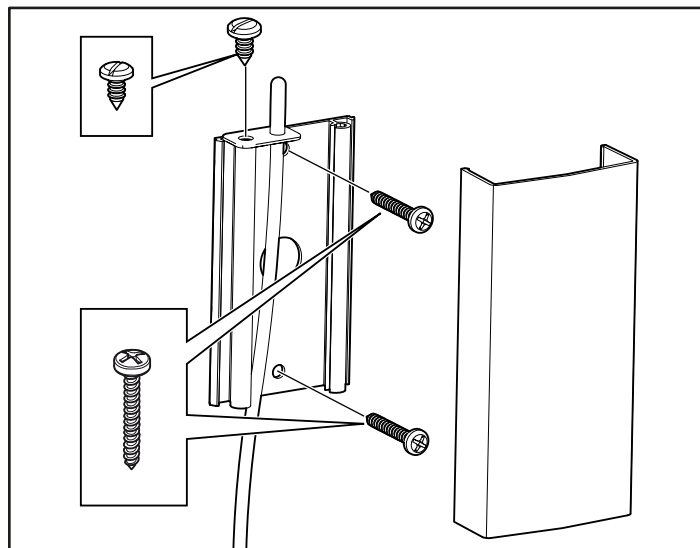
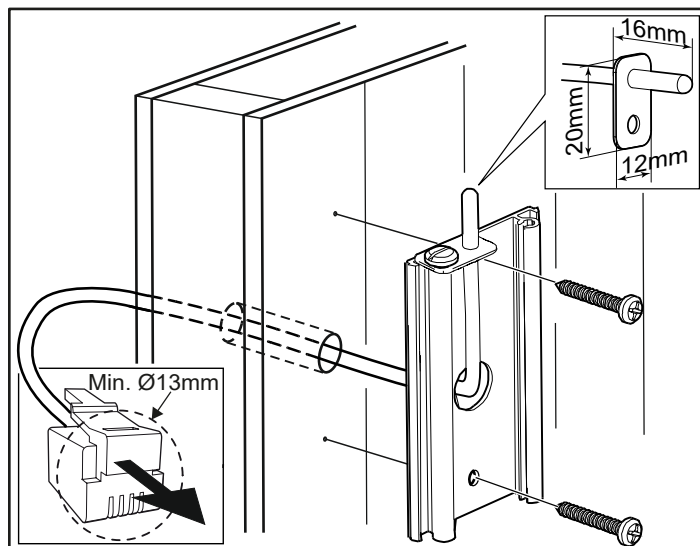

Figure 12: Installing the sensor
Figure 13: Wiring through the wall.
9. Install the sensor on the wall see Fig 12. The thermistor wire may also be passed through the wall. Seal any holes in the wall behind the sensor, see Figure 13. The thermistor wire may be extended outside the sauna using low voltage wire (2-lead).